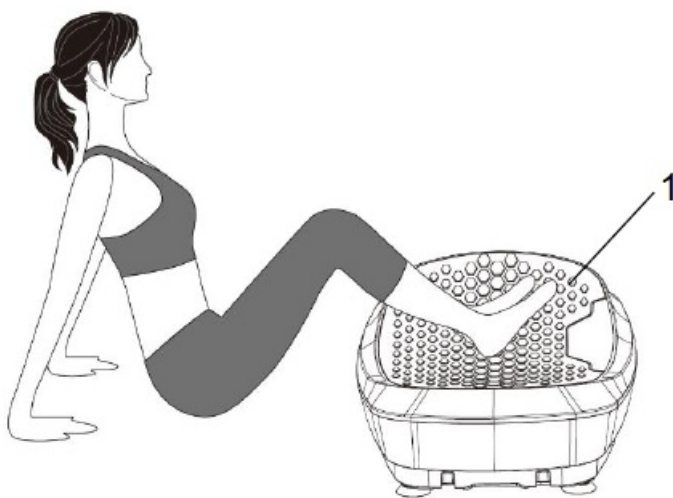

Fig. 3
2. Sit in front of the machine, keep your back straight and place your feet on the Stepping Rubber (No. 1) while supporting yourself with your hands at the sides. This exercise relaxes the leg muscles. **(Fig. 3)**